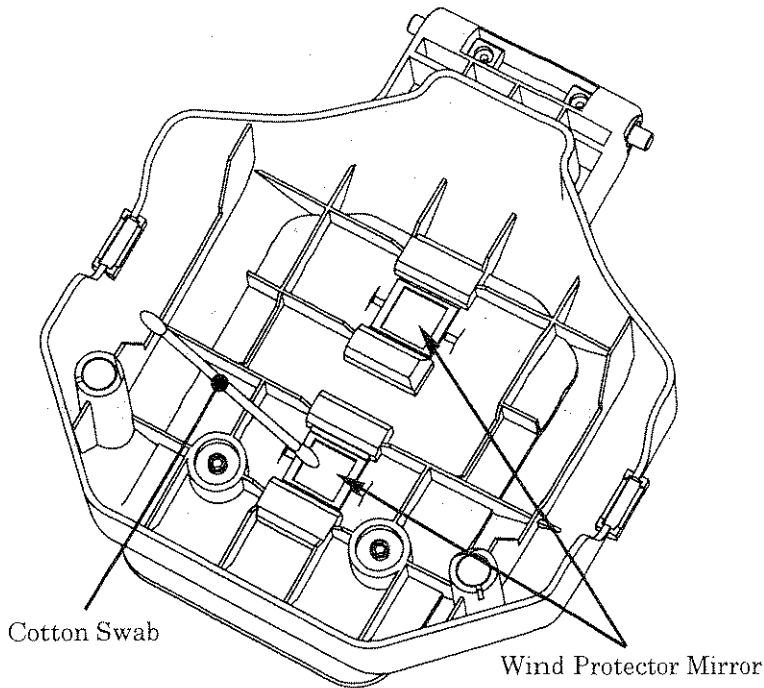

Fig. 5-4. Cleaning Wind Protector Mirrors
- (1) Clean the mirror surface with an alcohol-impregnated thin cotton swab as shown in Fig. 5-4. Remove excess alcohol from the mirror surface with a clean dry swab.
- (2) Mirror should be clean and smudge free.